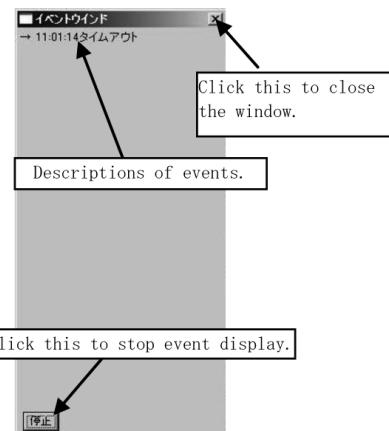

Fig. 9.6.2 Event Window
2. Next, the Event window as shown in Fig. 9.6.2 appears. The time when an event has occurred and its description are displayed.